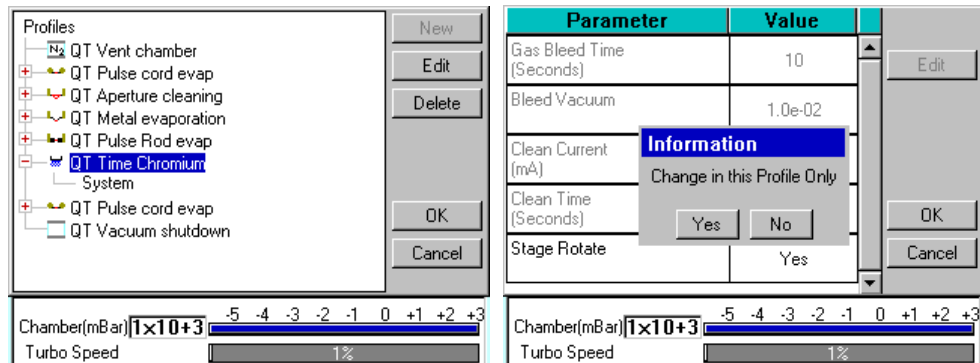

Figure 3-5. Listing system properties for a profile
2. Tap on the **+** sign to the left of the currently active profile (see Figure 3-5 - left).
3. Tap on *System*. *System Property Editor* is displayed (see Figure 3-5 - right).